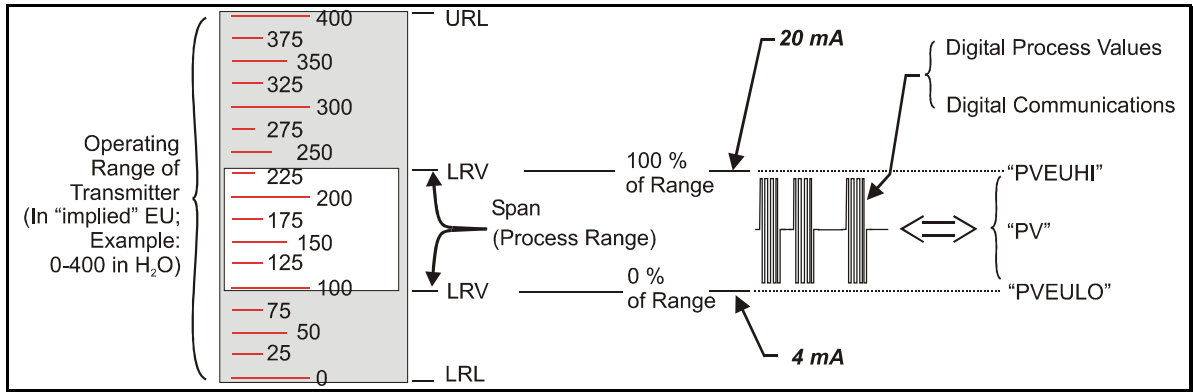

Figure 5 Honeywell DE Mode Value Scaling
Most of the operation of the Honeywell Smart Pressure Transmitter Digital Enhanced (DE) mode is similar to that of operation in the analog mode. The essential characteristics of operation in DE mode are shown in Figure 5.
As indicated at the right of Figure 5, output values of process variables, as well as digital communications, are transferred to a receiving device digitally. The digital coding is Honeywell proprietary, which requires the use of DE-capable Honeywell control equipment.